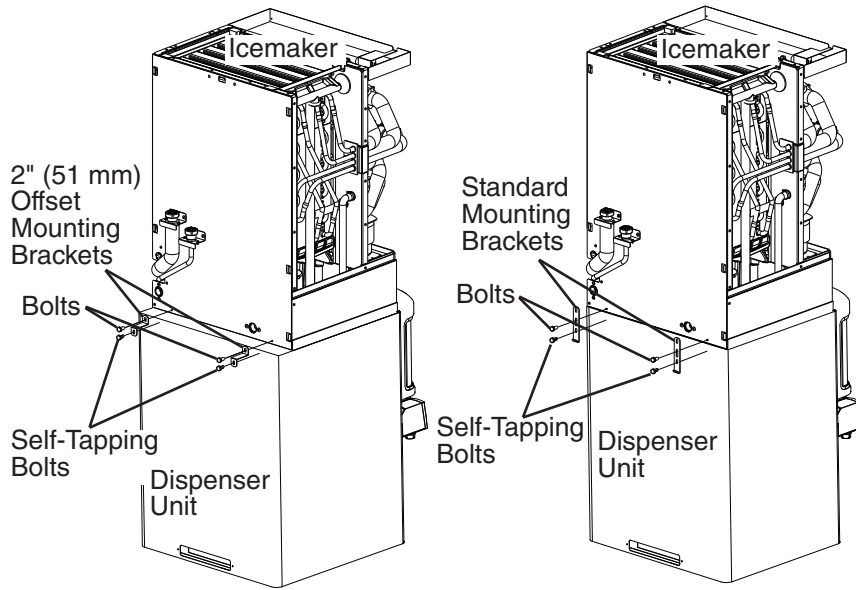

Fig. 5a
- 6a) **Dispenser Unit:** Follow the dispenser unit's instructions for securing the icemaker to the dispenser unit. If no instructions are available, secure the icemaker to the dispenser unit using the mounting brackets provided. If the installation requires the dispenser unit to extend 2 inches beyond the back of the icemaker, use the offset mounting brackets. See Fig. 5a. If the icemaker is flush with the back of the dispenser, use the standard mounting brackets and rotate them so that they fit flush to the icemaker and dispenser unit. Secure the mounting brackets to the icemaker with the machine bolts provided. Secure the mounting brackets to the dispenser unit with the self-tapping bolts provided.